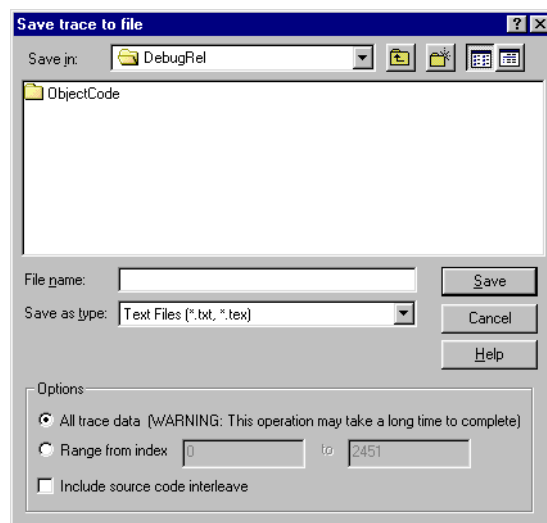

Figure 3-11 Save trace to file dialog box
1. Select **Log to file** from the Trace window context menu. The Save trace to file dialog box is displayed (Figure 3-11).